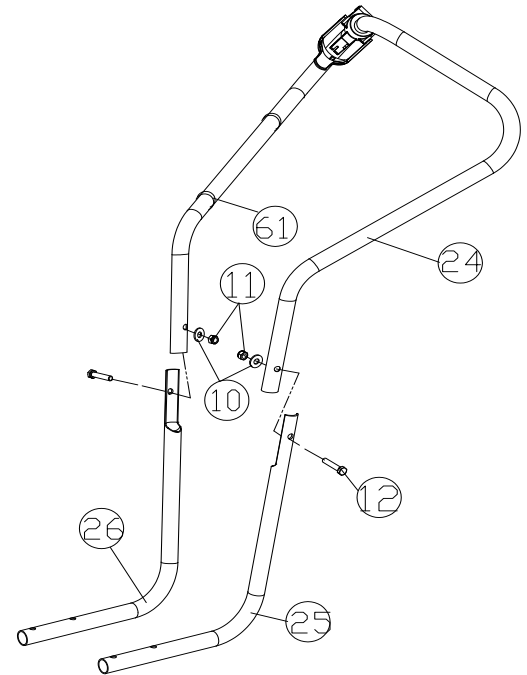

Fig. 1
1. The hardware for attaching the upper handle to the lower can be found on the lower handle. Install upper handle (item #24), to preassembled lower handles (item #25 & #26) by sliding the upper over and down the inside of the lower handle. Using a bolt (item #12), washers (item #10) and lock nut (item #11), install upper handle to lower handle. Finish installing the other side of the upper handle assembly using screw and lock nut provided. The Aim-and-Shoot™ is not attached, you will need to unroll the cable and attach the ball end to the lever and seat the cable end into the hole on the saddle clamp, with the cable running through the slot. To keep the cable from being damaged use three ty-wraps (item #61) to secure it to the handle as shown, making sure that the cable is not rubbing against the tire. (See Fig. 1)